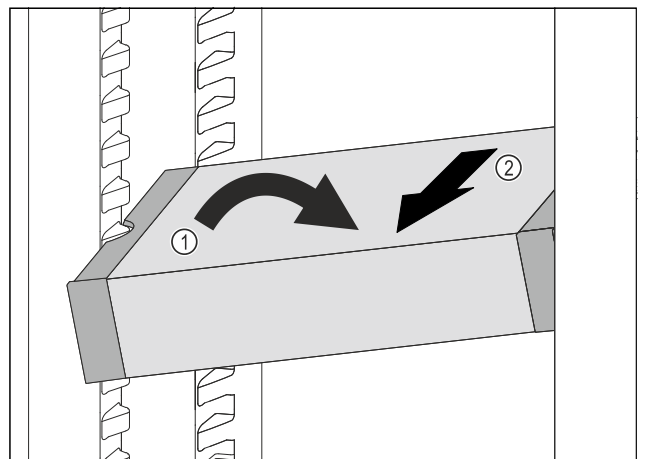

Fig. 61
- Set VarioSafe in refrigerator compartment at an angle. Fig. 61 (1)
- Take VarioSafe out to the front. Fig. 61 (2)